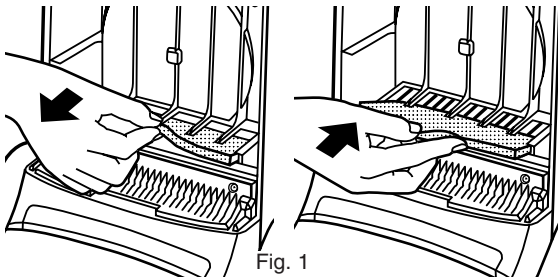
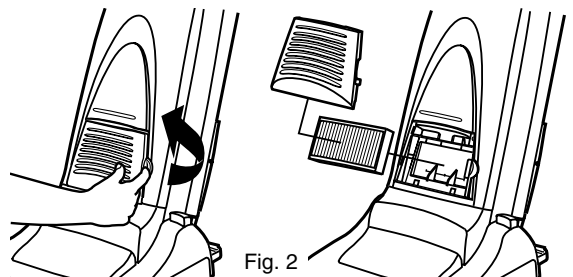

Fig. 1
Fig. 2
In addition to the dust bag, the vacuum cleaner contains two filters; a central filter that protects the motor (Fig.1) and an Advanced Micron Filter, "Clean air filter" that removes particles from the exhausted air (Fig. 2).
### **CENTRAL FILTER (Fig. 1)** Part # F03M1000
### **ADVANCED MICRON FILTER (Fig. 2)** Part # S02R5000
Remove the hose from the top suction inlet by pushing the two small clips in turning the hose to the right and pulling it out (Fig. 1). Clear any obstruction from the hose or top suction inlet using a blunt implement, taking care not to damage the hose.
If the obstruction occurs in the suction pipe inlet, it can be removed as shown in Fig. 2.
1. Remove the 5 screws from the base plate and lift it off. (Fig. 1)
2. Release the belt from the motor shaft and lift the beater bar assembly to remove the belt. (Fig. 2)
1. Loosen the 2 screws from the lens cover and remove it. (Fig.1)
2. Remove the old bulb by simply pulling it forward, and replace it with a new one. (Consult your local dealer /Service agent for a suitable bulb) (Fig. 2)